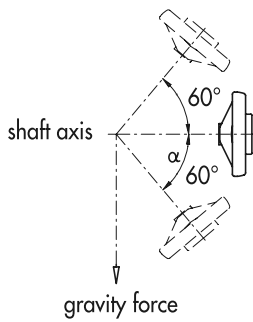

Fig.3
5.1 The gravity indicator is more accurate when used on horizontal control spindles. It can be however used on spindles max 60° inclined, but the accuracy decreases as the angle of inclination α° increases (fig. 3).